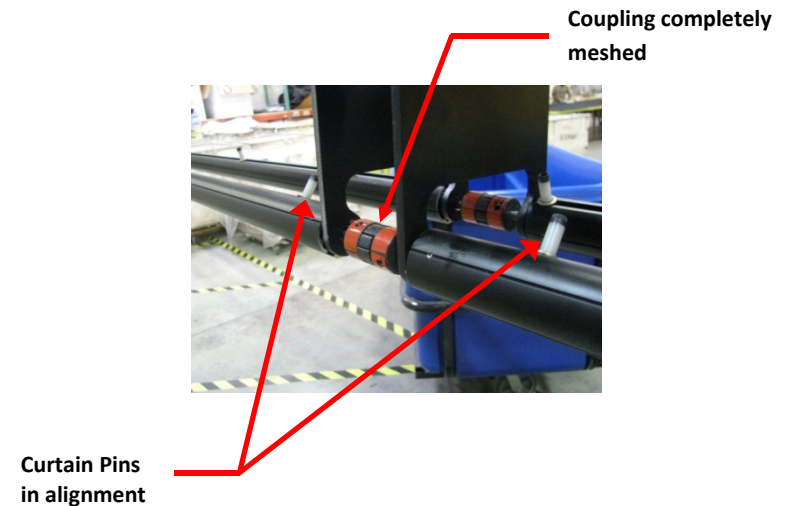

Figure 3
Step 4: Align **curtain pins** on **curtain rods** with one another (i.e. all pointing up) and push units together so the **couplings** are completely meshed, keeping **curtain pins** in alignment (refer to Figure 3). The **couplings** are preset at the factory and should not need adjusting, but If the **curtain pins** are out of alignment, adjust the angle by loosening the set screw on one side of the **coupling** with an Allen wrench (included); rotate the **curtain rod** so the **curtain pins** are in alignment and retighten the set screw.